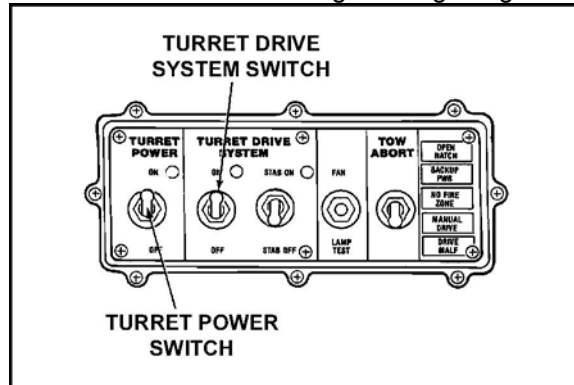

Figure 1. 25-mm gun and turret control box.
2. Perform a function check on the 25-mm automatic gun using the gunner's control handles (Figure 1).